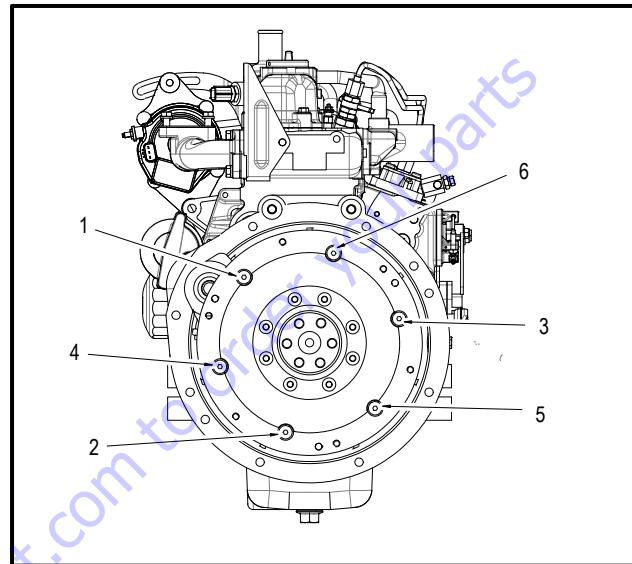

Figure 3-71. Clutch Adapter Plate Torque Sequence
2. Using the pattern shown in Figure 3-71., Clutch Adapter Plate Torque Sequence, work back and forth around the pressure plate turning each bolt not more than 3 turns before turning the other bolts to a similar level.